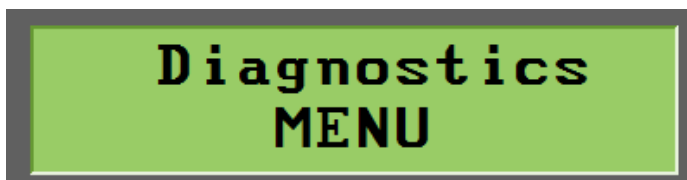

Figure 4-3. Diagnostics Menu
3. Using the left or right arrow key, navigate to the Diagnostics menu as shown in Figure 4-3.